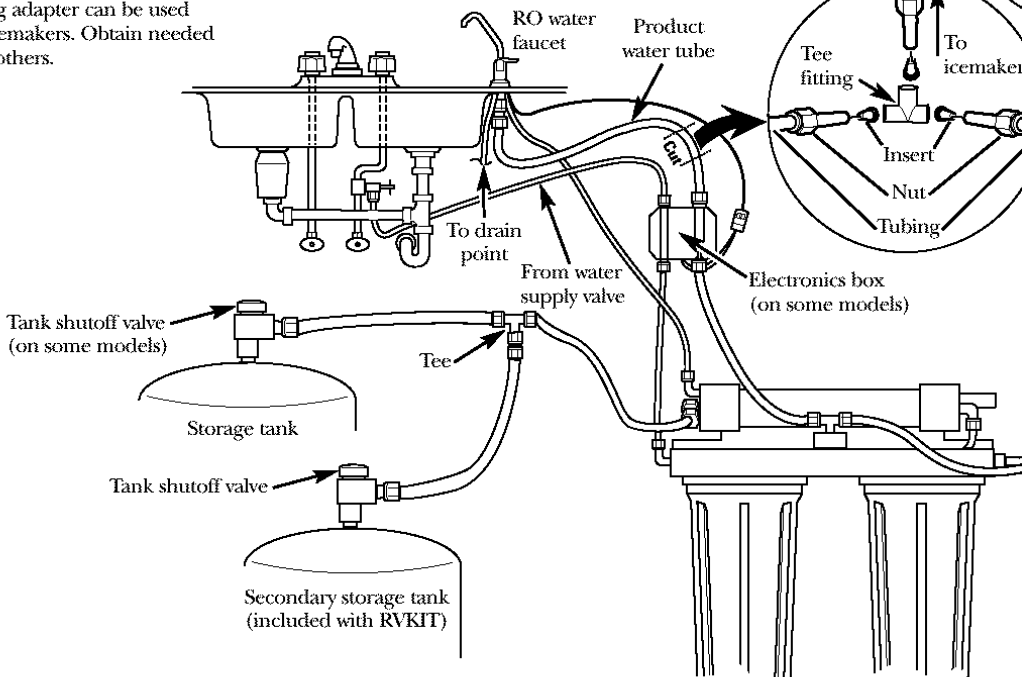

Fig. 4
1. Locate the 3/8" tubing that supplies the product water to the RO faucet. It will be blue, gray or white, depending on the model. **Do not confuse the product water tubing with the drain water tubing that also goes to the faucet (black or white on most models).** At a convenient point between the faucet and the electronics box (on some models), cut the tubing and install the second Tee fitting. Connect one end of the 33-foot length of blue tubing as shown in Fig. 4.